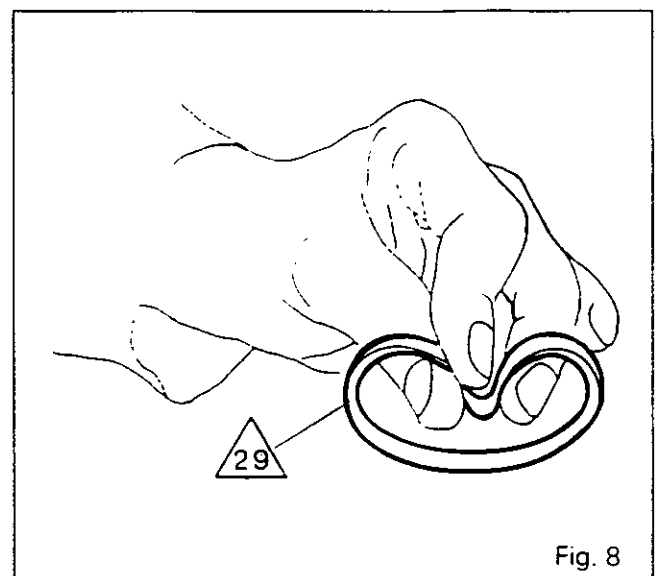

Fig. 8
10. Shape the sealing bushes /29\ as per Fig. 8.